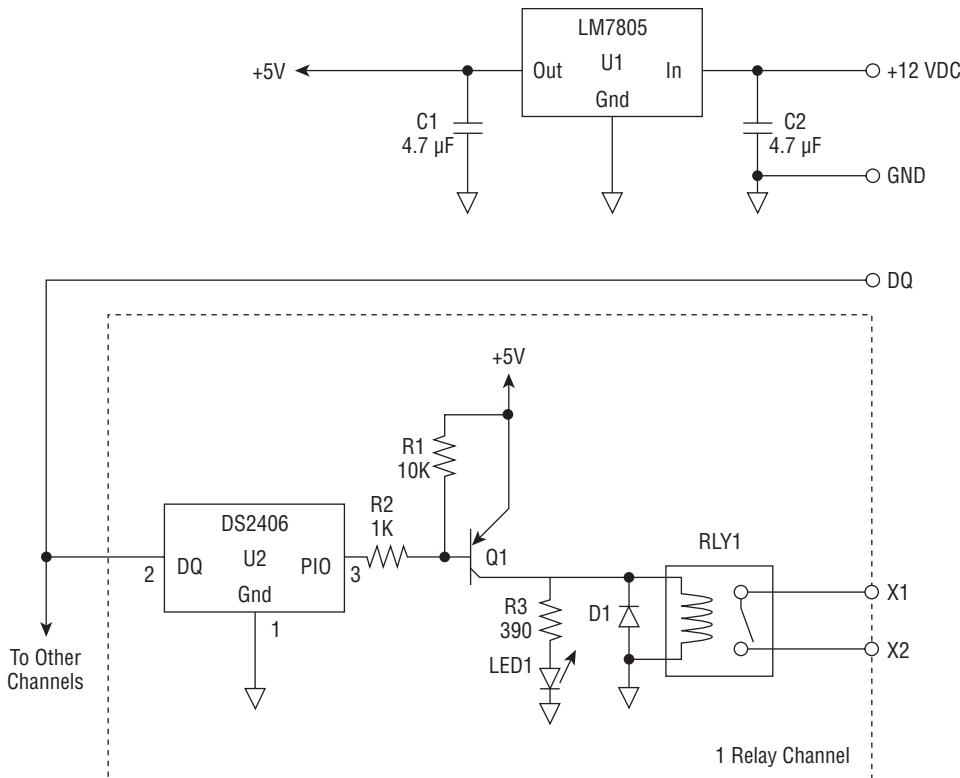

FIGURE 18-1: Basic 1-channel controller.
In the circuit shown in Figure 18-1, one channel of the relay module is shown plus the common power supply. If you're building your own, you can have almost as many channels as you want. The only limitation is the number of relays that U1 can power.
- **Option 3: Build it from Scratch.** Using the schematic in Figure 18-1 and the parts list in Table 18-1, you can build your own relay card from scratch. The advantage is that you can add as many channels as you'd like, up to 10, all on one circuit card. This project can be built without surface-mount components, so it is possible to use perf board and point-to-point wiring.